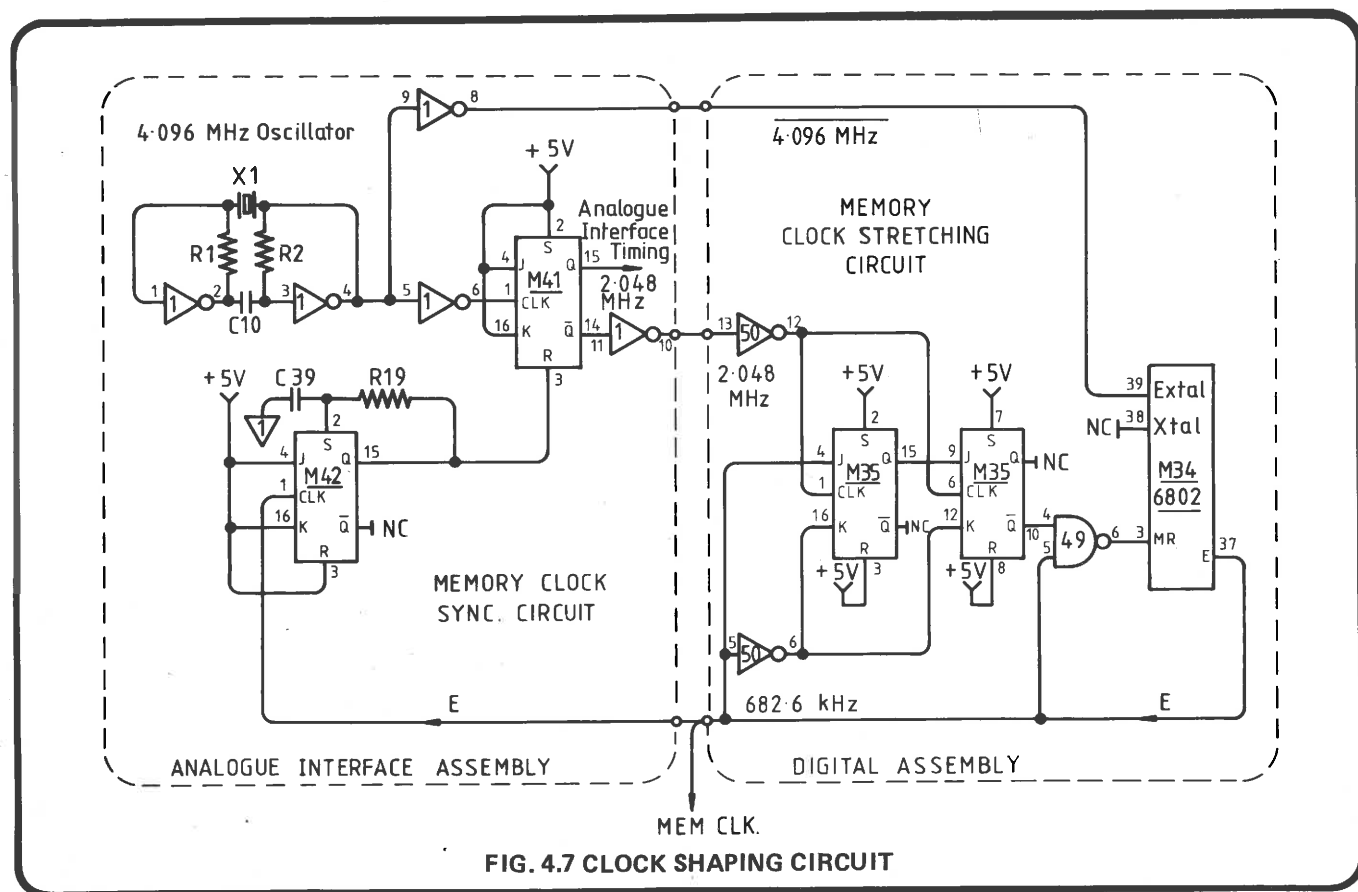

FIG. 4.7 CLOCK SHAPING CIRCUIT
NB As the locations of the circuits in fig. 4.7 are clearly marked, and as there are no duplicate designators in the circuits, this description does not refer to a component's location except where necessary.
4.2.7.1 Memory Clock Stretching Circuit (Fig. 4.7)
4.2.7.2 Shaping Action (Figs. 4.7 and 4.8)
4.2.7.3 2.048MHz Clock Synchronisation (Figs. 4.7 and 4.9)
Unless M41 is synchronised, it could toggle in reverse phase, upsetting the timing of the stretching circuit. In Figs. 4.7 and 4.9, M42 acts as a monostable to provide a negative reset pulse into M41-3, coincident with the negative-going edge of E. If M41 starts up in the wrong phase, its state is corrected just prior to T7. Once established in the correct phase, M41 will already be in reset when the pulse appears, and is not affected.